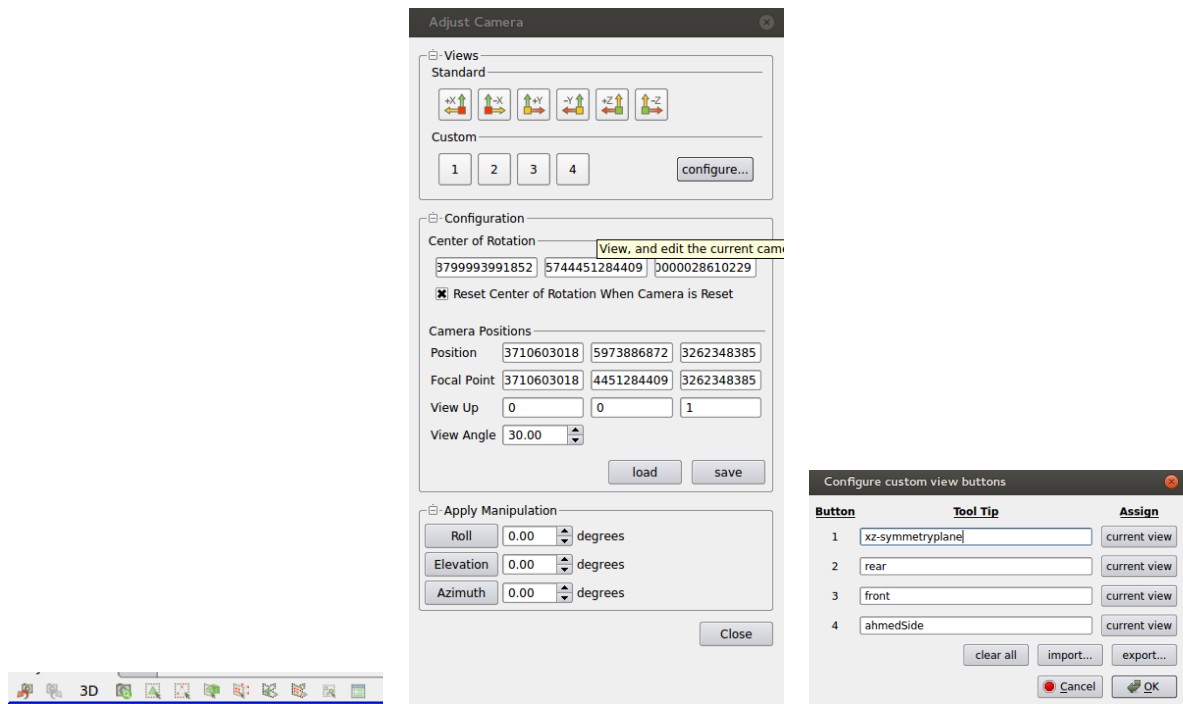

Figure 1.33: Adjusting the camera view.
3. Click **Adjust camera** → **Configure** → Name first view → click **current view** → OK → **Close**. *as shown in figure 1.33.*